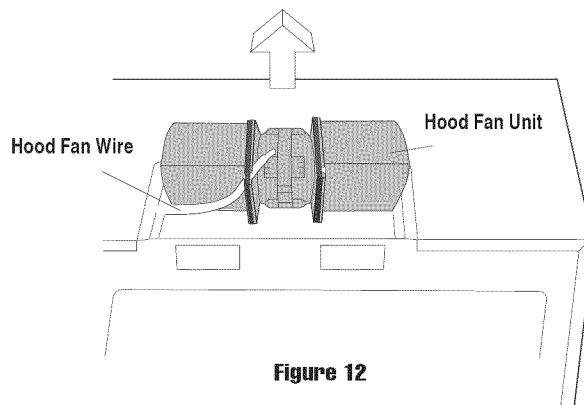

Figure 12
2. Lift Hood Fan Unit carefully and slip wires out of cavity. See Figure 12. **CAUTION: Do not pull or stretch Hood Fan Wire.**